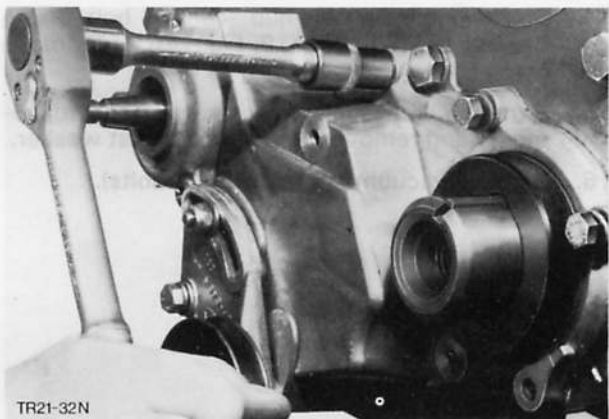

Fig. 149. Centralise timing cover using Special Tool 21-025
22. Fit timing cover with new gasket to intermediate plate, centralise and secure with same Special Tool, Fig. 149, applying sealer to bolts.